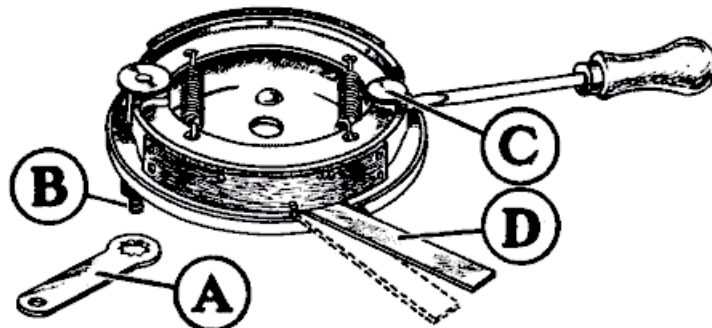

Fig. D22.
If it is necessary to remove the shoes, first take off the brake lever (A) Fig. D22, and tap in the cam (B) until the cam plate clears the shoes. Insert a screwdriver between the brake shoes adjacent to the fulcrum pin (C) and twist the screwdriver. Place a small lever, (D) between the shoe and the anchor plate and lever the shoe upwards until the spring tension is released. The shoes can then be lifted from the cover plate.